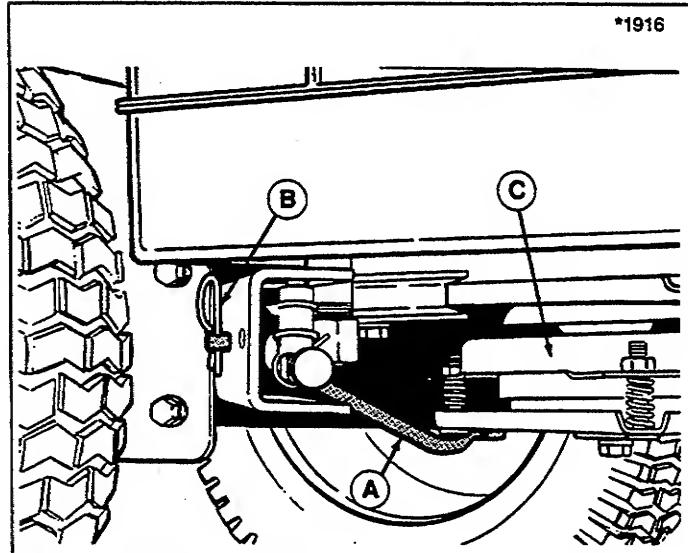

Figure 6. Anti-Spin Rod
4. Install rod to PTO as shown in figure 6. Insert other end through frame and secure with spring clip.
7. See figure 6. Remove the spring clip from anti-spin rod outside rider frame. Push rod through frame and disengage other end from PTO.